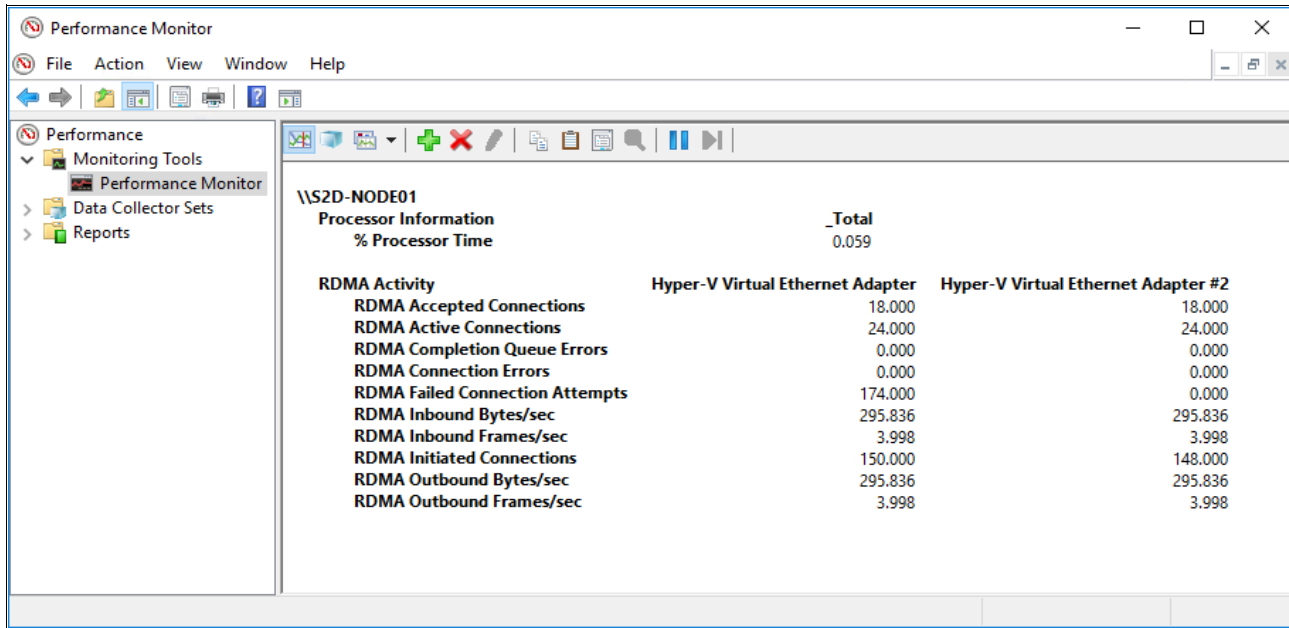

Figure 72 Key RDMA performance metrics
5. This should show a report of RDMA activity for your vNICs. Here you can view key performance metrics for RDMA connections in your environment, as shown in Figure 72 on page 91.